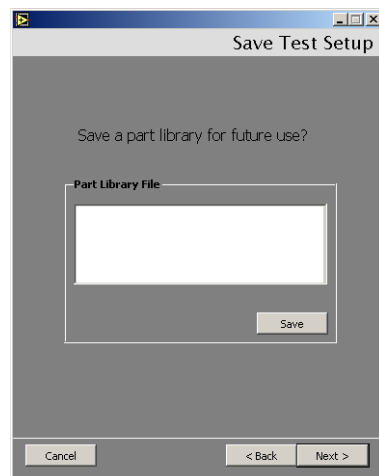

Figure 2-24 Save Test Setup
16. Click **Next** and Figure 2-24 appears.